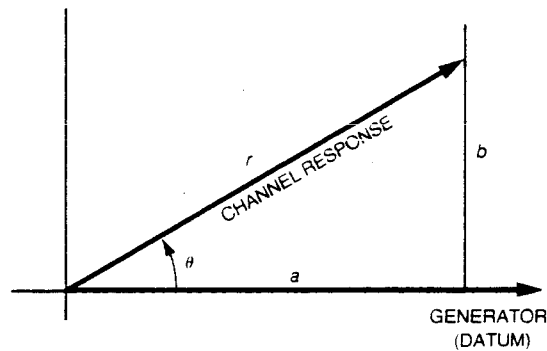

Fig. 1.3 Single Point Measurements
- a. Single Point measurements (i.e. the absolute voltage of a single Channel, and its phase with respect to the Generator) as shown in Fig. 1.3: